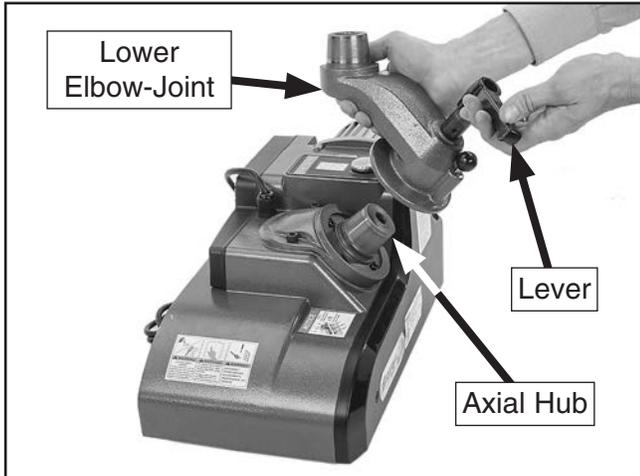

Figure 12. Attaching lower elbow-joint.
- Attach lower elbow-joint to power feeder assembly by threading lower elbow-joint lever all the way into threads of axial hub of power feeder (see **Figure 12**).